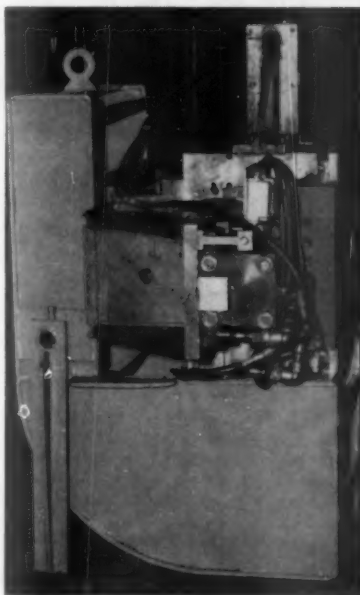

Figure 7. Ninety-degree die turning fixture with swivel-type legs. (Courtesy Guide Lamp Division, General Motors Corp.)
38. The load simply can be transferred from one hoist to another which utilizes the second hook-up point, or a die turning device (Figure 7) can be used. The cam-like action of the base of the turning device prevents the die from reaching a point that would result in flop-over. In other words, the weight of the die remains on the hoist at all times, whether the hoist is lifting or lowering, except while the die is in a reclining position or has the support legs in place.